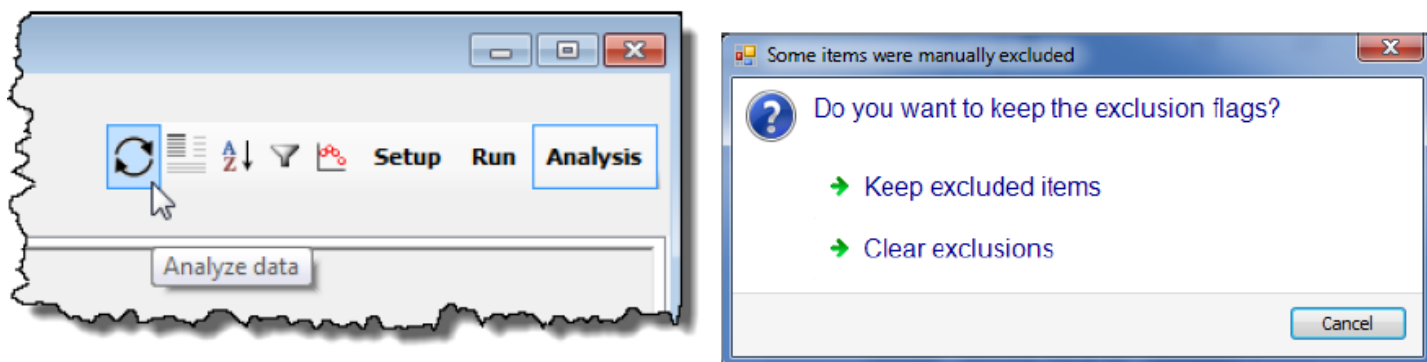

Figure 38. Confirmation of exclusions when re-analyzing data.
- When you re-analyze the data, you will be asked if you want to keep the exclusions or not (Figure 38)